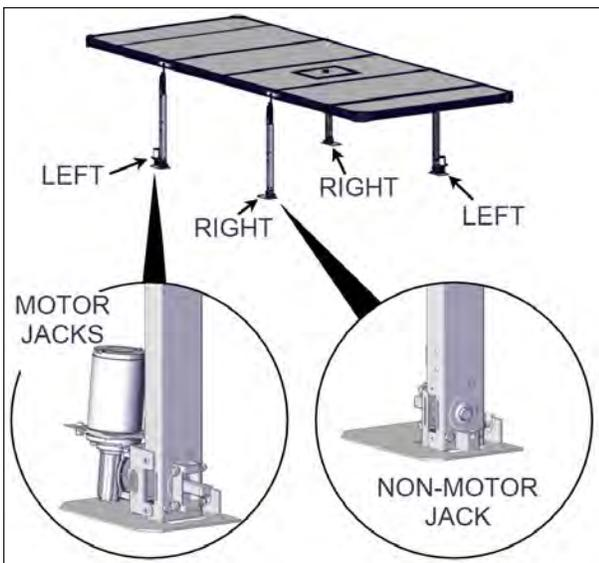

FIGURE 91: JACK POSITIONS
1. Position the jacks in their locations. Motorized jacks should always be on the left side when looking at the spa see Figure 91.